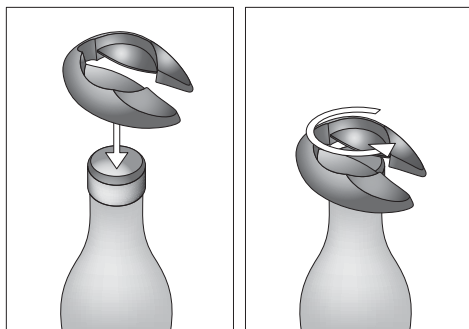

Figure 2
- 1) Use the foil cutter ❻ to cut open the foil sleeve encasing the bottle cork: Place the foil cutter ❻ onto the closed bottle of wine as shown in Figure 2.